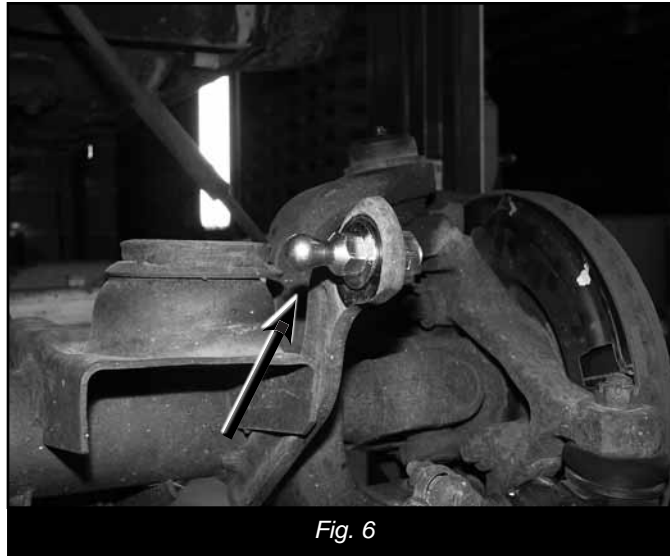

Fig. 6
21. Install the new lower ball stud (01302) to the OE sway bar link axle mount (Fig 6) with a  $\frac{1}{2}$ " nut and two  $\frac{1}{2}$ " SAE washers (BP 718). The washers mount on each side of the OE mount. The ball mounts toward the inside of the vehicle. Torque nut to 60 ft-lbs. *Note: It may be necessary to clean the axle mount hole of burrs from the OE serrated mounting bolt to provided clearance for the new ball stud.*